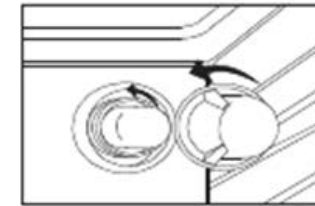

Figure 36
- Remove the glass cover by turning counter clockwise. (See Figure 36)